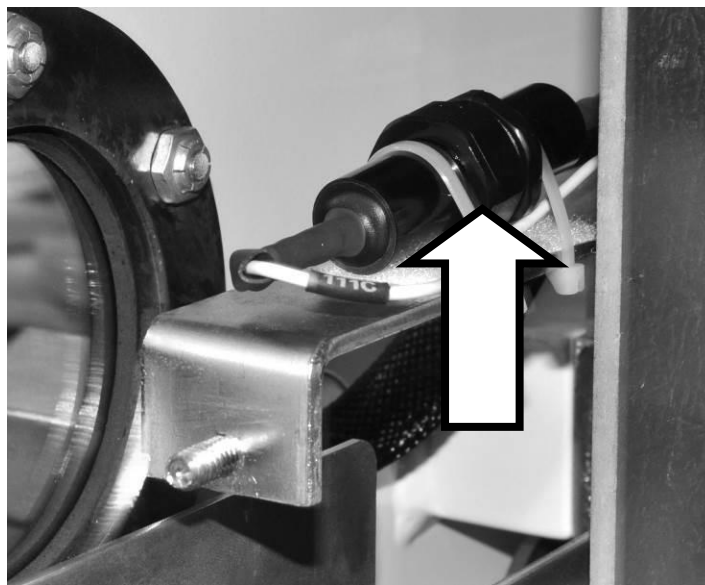

Figure 27
5. Locate and replace the blown racking circuit fuse (Figure 27).
6. Re-secure fuse holder as shown in Figure 27.